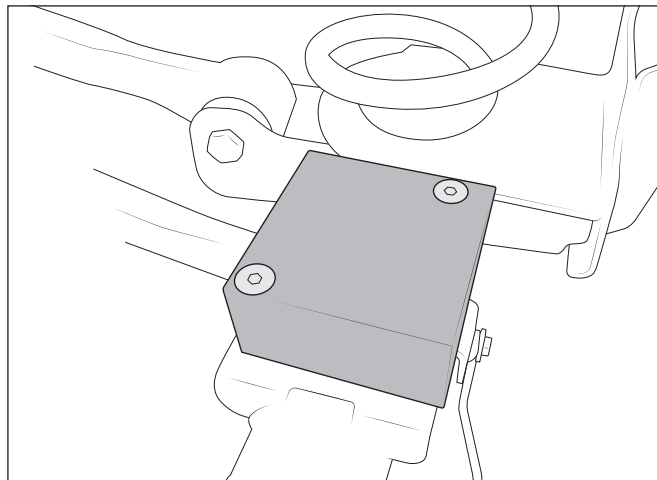

Figure 9
13. Drill the factory holes in the bump stop pads to 13/32". Treat with rust preventative. Install AEV bumpstop spacers on the axle using the supplied M10 flat head, countersunk bolts and flange nuts (fig. 9). Tighten bolts until slight deformation around the holes in the spacer occurs, do not tighten excessively or splitting could occur. NOTE: The longer side of the spacer should be toward the rear of the vehicle